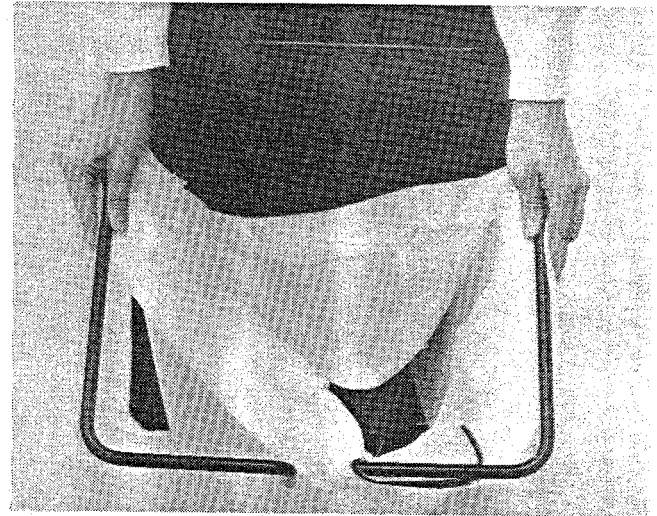
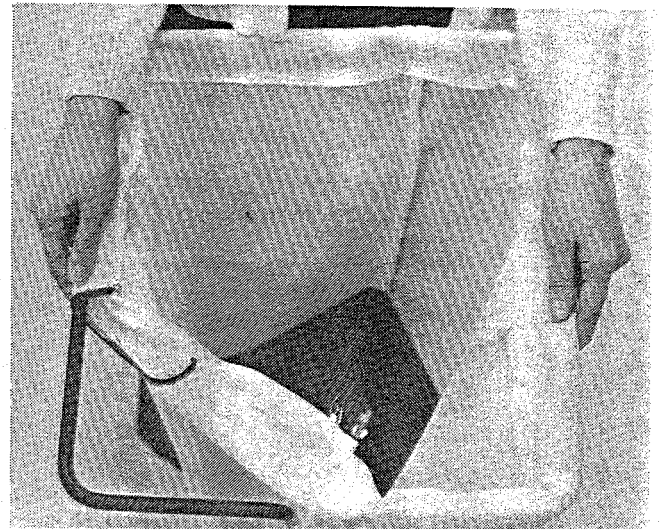

Figure 35.
Figure 36.
- The grass bag must be installed onto the hanger. Insert one end of the hanger into hole in seam of bag as shown in figure 35. Then, continue routing bag around (figure 36) until the two ends of hanger extend through hole in seam of bag. Be sure the handle is on bottom of bag. (If handle is inside bag, the bag is inside-out.)